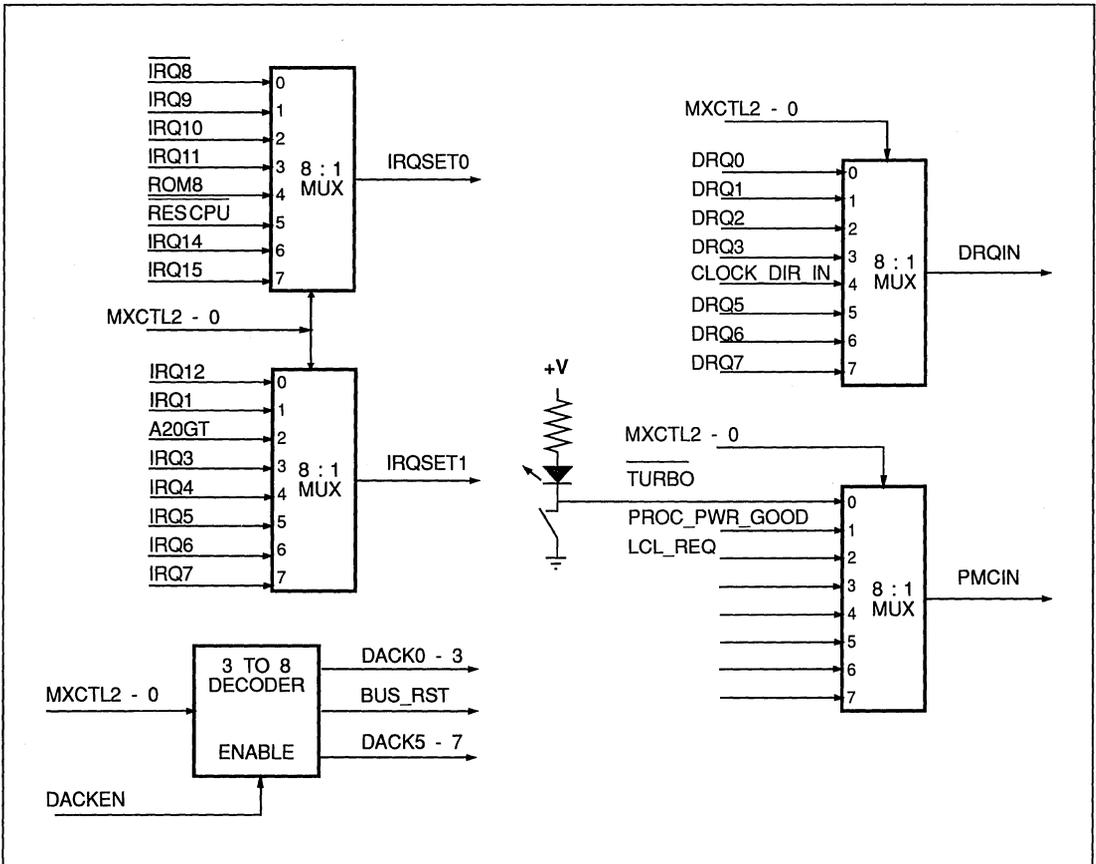

FIGURE 5-1. MXCTL2-0 MULTIPLEXING
* Based upon the value of CLOCK_DIR_IN at power up (refer to Table 5-1, Figure 5-1 and section 5.1.2).
To reduce the number of pins required, the System Controller generates and outputs the MXCTL2-0 and DACKEN signals used by external logic to multiplex the DACKs, DRQs and IRQs down to single inputs. See Figure 5-1.
Immediately following a System Reset ($\overline{\text{RSTIN}}$), DRQIN input 100 is sampled. If low, the processor clock (CPUCLK) pin is an output. If high, the CPUCLK starts as an output but is switched to an input shortly after $\overline{\text{RSTIN}}$ is de-asserted. See Table 5-1 and Figure 5-1. This controls the default value of CLK_SPD in the CPU Clock (CPUCLK) Control Register at Port 1072H. See section 4.2.4.
The Interrupt Requests are multiplexed by the WD76C30. The multiplexing is performed as shown in Table 5-1 and Figure 5-1, and provides the System Controller with the IRQSET1 and IRQSET0 signals.
The power control signals are placed on the PMCIN input pin by way of an eight to one multiplexer, controlled by the MXCTL2-0 signals from the System Controller. In the WD7910, the TURBO signal may be connected directly to PMCIN. In the WD7910LP, the external 8:1 MUX is always used. See Figure 5-1. Bits 14 and 13 of Port 1872H (Section 5.3) control the power down of the processor and peripheral.
When a PMC interrupt occurs, PMC output 7 at Port 7072H is reset, enabling the power up sequence. A CPURES and BUS_RST (see Figure 5-1) are asserted until the PMCIN 01 PPG at Port 8872H input is high. The tristated outputs are restored and the inputs are no longer masked.